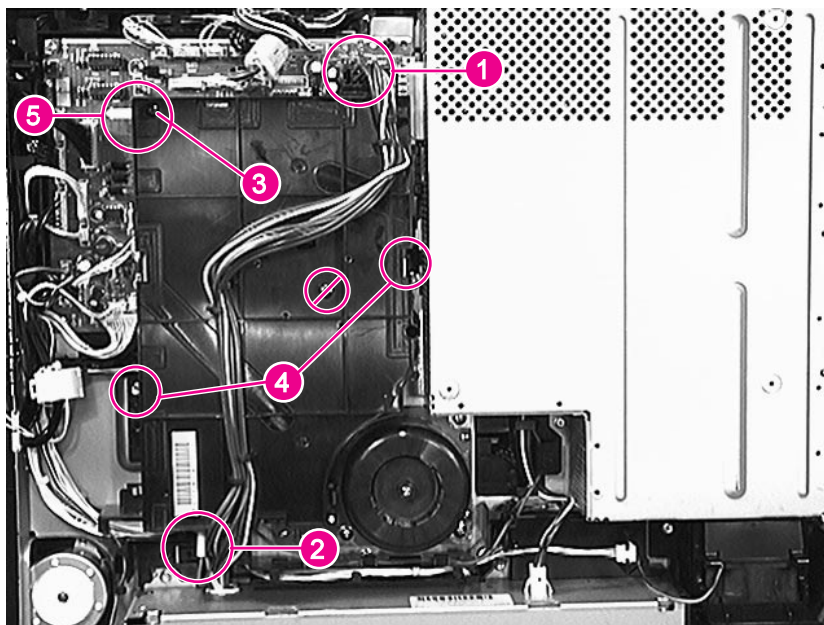

Figure 6-51 High Voltage Power Supply
- 2 Remove the HVPS (see figure 6-51 on page 219).
- 3 Remove the High Voltage Power Supply (see figure 6-51 on page 219).
- High Voltage Power Supply (HVPS) (see figure 6-51 on page 219)
- 2 Unplug the cable from the LVPS to the DC Controller PCA (figure 6-51, callout 1), and move it out of the way.
- 3 Unplug the connector from the bottom of the HVPS (figure 6-51, callout 2).
Do NOT remove the screw indicated in Figure 6-51, beneath the null symbol
- 4 Remove 1 self-tapping screw (figure 6-51, callout 3) and 2 screws (figure 6-51, callout 4).
Make sure that the plastic alignment pin (figure 6-51, callout 5), the connector pins, and the high voltage contacts are properly aligned before replacing the screws.